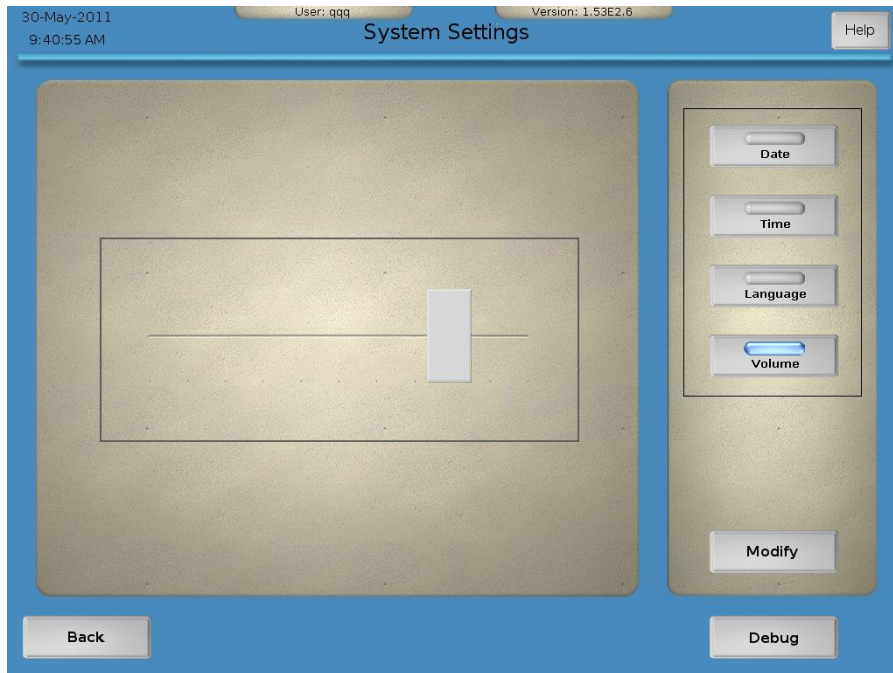

Figure 3-51. System Settings screen—volume
- d) Volume: Change the speaker volume by pressing on the bar and sliding it left (softer) or right (louder) (Figure 3-51). Proceed to step 3.